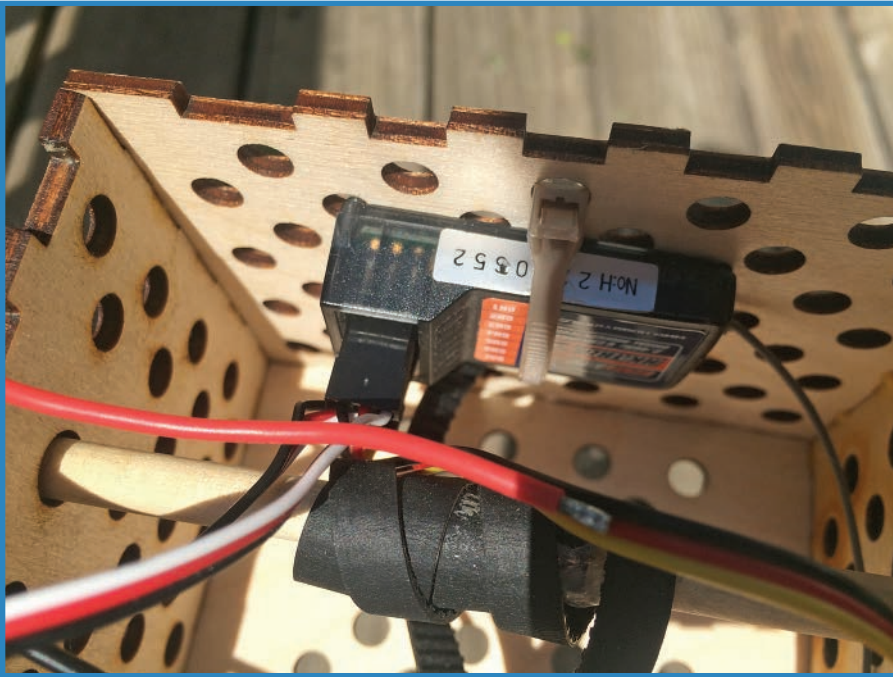

FIGURE 7.15 Zip-tie the receiver to the gondola.
10. Connect the receiver to the gondola using zip ties. It should look just like you see in Figure 7.15. Position the receiver close to the front so it can be close to the speed controllers.